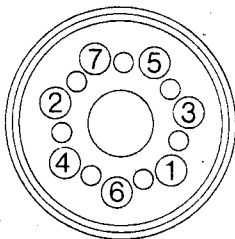

**Figure 17**
**40** Apply petroleum jelly to the needle thrust bearing and the 2 bearing thrust races. Place needle thrust bearing between 2 bearing races. Install them in the spacer plate, insert thinnest race first, see Fig. 17 and Fig. 24.
**41** Install spacer plate with seal and bearings toward motor housing. See fig. 17. Hold bearings in place with index finger through the center hole. Align bolt holes in spacer plate with holes in housing. Be sure bearing, races and seal are properly seated.